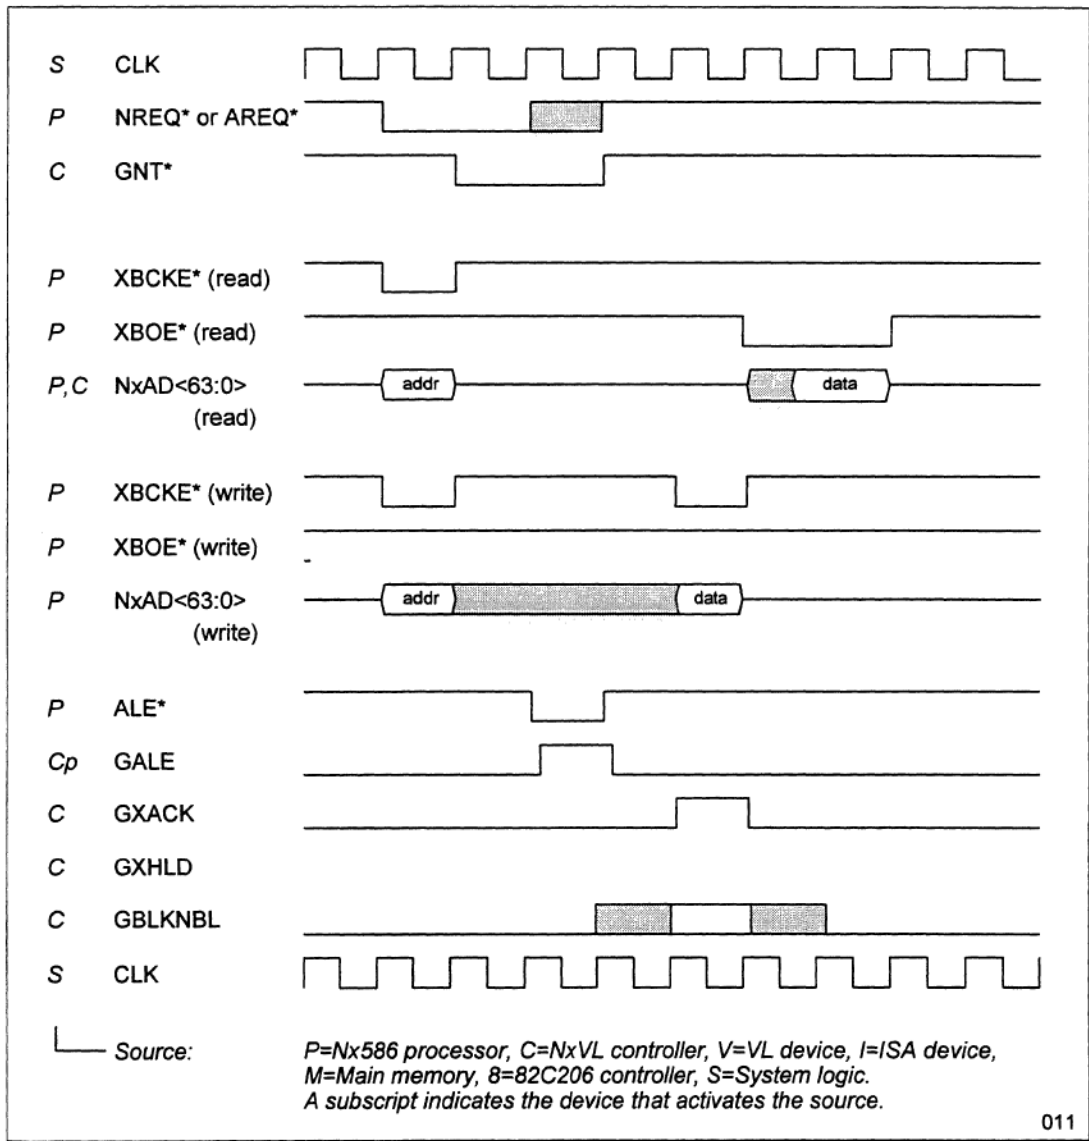

Figure 33 Bus Arbitration, Address, and Data Phase (BUFMODE = 1)
- *BUFMODE Tied High (1)*—If BUFMODE is 1, the processor (including its XBOE* and XBCKE* signals) is connected directly to the NxVL, the NxVL NexBus ports emulates the bus transceivers, and the timing of the address and data signals on the NexBus is somewhat different than when BUFMODE is 0. Figure 33 shows the arbitration, address, and data phases when BUFMODE is 1. Figure 14 shows a block diagram of this bus-connection alternative.
As shown in Figure 33, when BUFMODE is 1, addresses or data going *from the processor to the NxVL* (addresses for all processor-initiated cycles and data for processor-initiated write cycles) appear at least one clock before the corresponding information when BUFMODE = 0. XBCKE* is asserted to latch the addresses and data into the NxVL, although the latched addresses and data are not used until the correct phase in the cycle, which is different than for BUFMODE = 0. For addresses or data going *from the NxVL to the processor* (addresses for NxVL-initiated snoop cycles and data for processor-initiated read cycles), the addresses and data are delayed by one clock when compared to BUFMODE = 0, and XBOE* is asserted to enable the NxAD buffers in the NxVL. To provide adequate setup time for the processor which latches data at the falling edge of the clock, the data is switched by the NxVL at the falling edge of the clock.